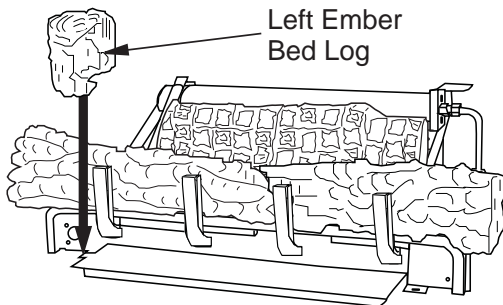

Figure 30 - Installing Left Ember Bed Log
- Place left ember bed log as shown in **Figure 30**. The log has groove on one side that sets on the ember bed pan. The back side of this log needs to rest against the front of the base assembly. Make sure the flame from the ember pan does not touch the ember bed log.